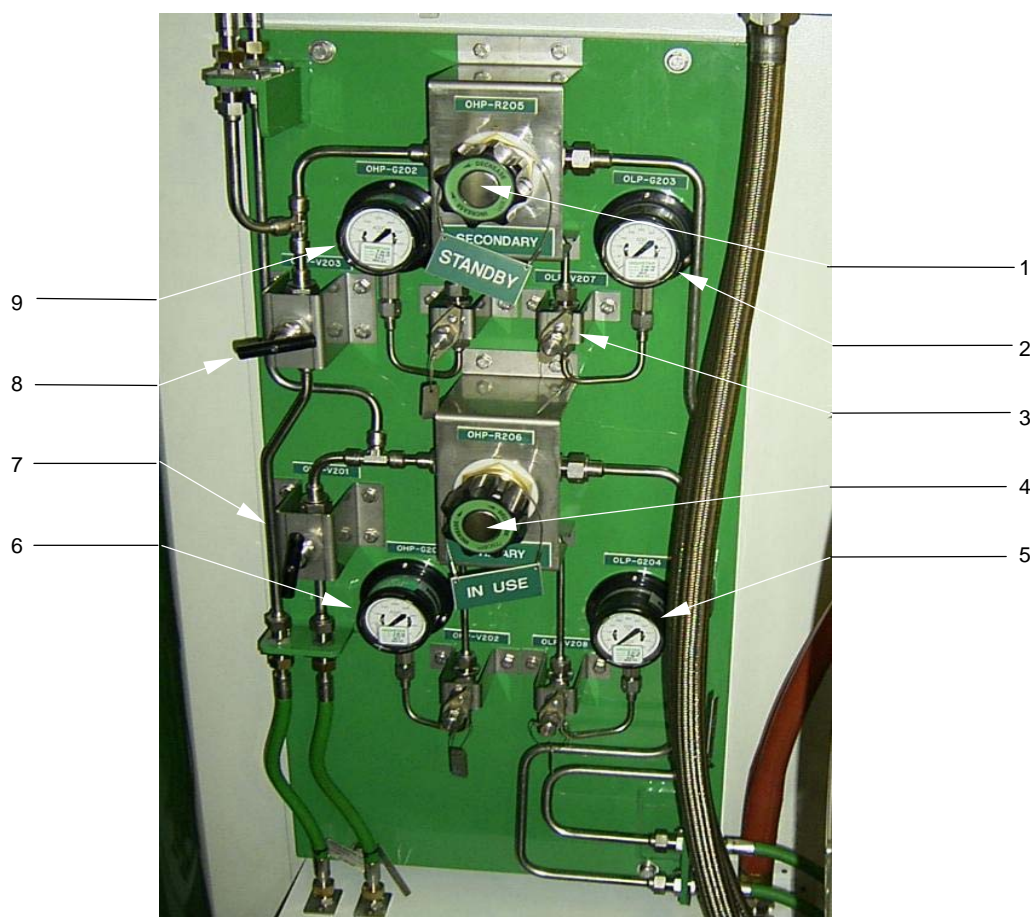

Figure 3-14. Oxygen (O₂) Reducing Station
3-2.6.3 Oxygen Reducing Station. The Oxygen Reducing Station (see Figure 3-14) allows monitoring and regulation of primary and secondary oxygen flow to the chamber's Built-In Breathing System (BIBS).
3-2.6.3.1 Primary and Secondary HP Oxygen Regulators. The oxygen pressure regulators are spring-loaded, diaphragm-controlled, air pressure control devices. Once set, the regulator will maintain a constant outlet pressure over a wide range of inlet pressures and outlet flow rates. In Figure 3-14, item 4 (OHP-R-206) is the Primary HP Oxygen Regulator and item 1 (OHP-R-205) is the Secondary HP Oxygen Regulator.
3-2.6.3.2 Primary and Secondary LP Oxygen Supply Gauges. These gauges indicate the outlet pressure at the downstream side of the primary and secondary oxygen reducing stations. These gauges are used while setting the primary and secondary reducers and to monitor the LP oxygen system during operation. In Figure 3-14, item 5 (OLP-G-204) is the Primary LP Oxygen Supply Gauge and item 2 (OLP-G-203) is the Secondary LP Oxygen Supply Gauge.
3-2.6.3.3 Primary and Secondary HP Oxygen Supply Gauges. These gauges indicate the pressure at the inlet side of the oxygen reducing valves. These gauges will reflect the pressure at the outlet of the online oxygen air bank or other supply system during operation of the recompression chamber. In Figure 3-14, item 6 (OHP-G-201) is the Primary HP Oxygen Supply Gauge and item 9 (OHP-G-202) is the Secondary HP Oxygen Supply Gauge.
3-2.6.3.4 Primary and Secondary HP Oxygen External Supply Shutoff Valves. These 1/2" needle valves are used to isolate the outside HP oxygen source from the reducing station. In Figure 3-14, item 7 (OHP-V-201) is the Primary HP Oxygen External Supply Shutoff Valve and item 8 (OHP-V-203) is the Secondary HP Oxygen External Supply Shutoff Valve.
3-2.6.3.5 Oxygen Reducing Station Gauge Isolation Valves. The gauge isolation valves are mounted in the supply piping to each gauge in the system. These isolation valves are designed to act as stop valves or as a test fitting to allow for testing the gauge in place. In Figure 3-14, item 3, the Secondary LP Oxygen Gauge Isolation Valve (OLP-V-207), is a representative example. See Figure 2-7 for the names and locations of all Oxygen Reducing Station gauge isolation valves.